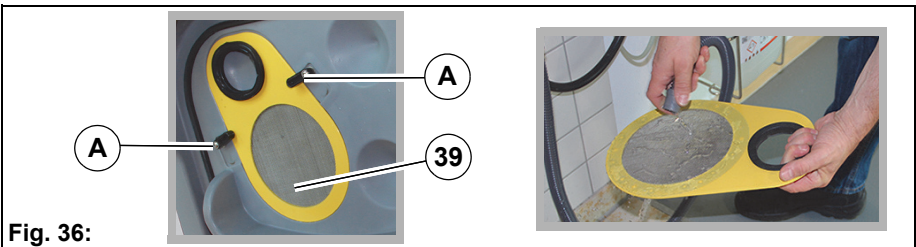

Fig. 36:
1. Rotate the locks **Fig. 36-A** downwards and remove the intake sieve **Fig. 36-39**.